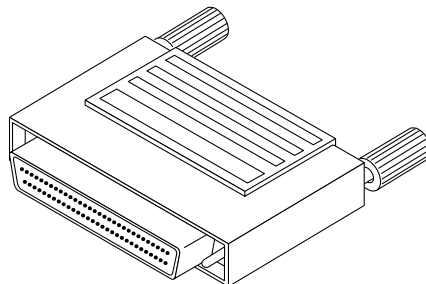

Figure 4-2 SCSI Terminator
The I/O board in slot 1 controls the internal SCSI tray devices. Therefore, the external SCSI connector on the I/O board in slot 1 of a system must be terminated with a SCSI terminator. See Figure 4-2.
**Note** – The I/O board in slot 1 controls the internal SCSI tray devices. Therefore, the external SCSI connector on the I/O board in slot 1 of a system must be terminated with a SCSI terminator. See Figure 4-2 on page 4-3.